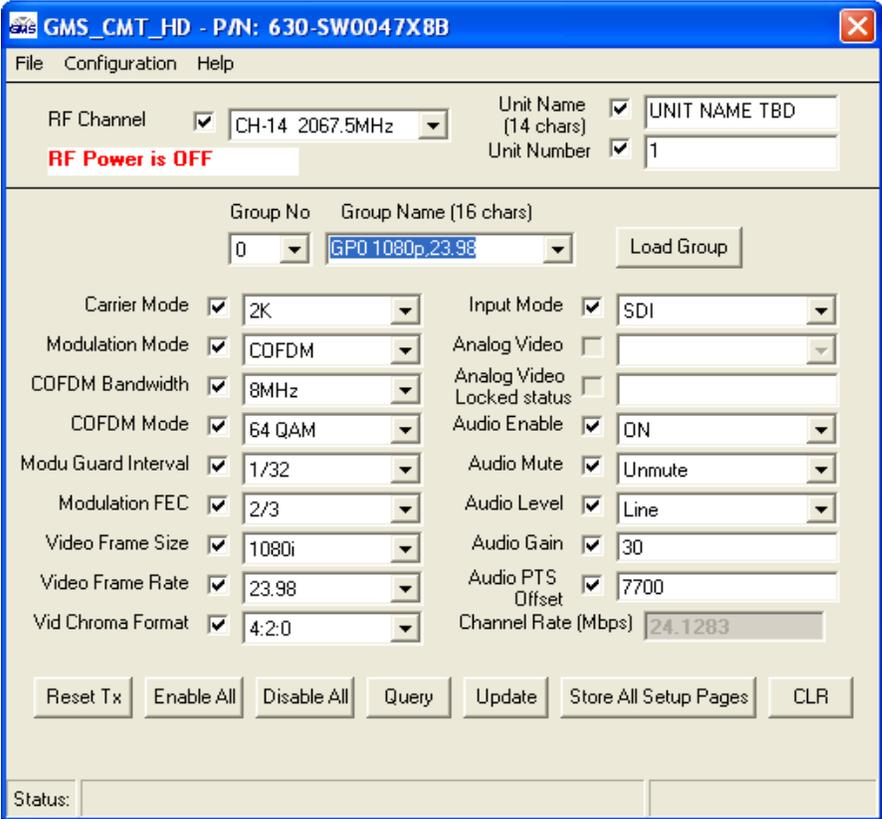

Figure 9a – RF Power OFF
- **RF Power Mode**-Can be used to put transmitter in a sleep mode, a low power mode where the encoder functions and many of the power regulators are shut down enabling a saving in current (approx. 40%) when transmitter is not active. The **OFF** state of the unit is displayed on the main window (see figure 9a). To have the unit in the desired **RF Power Mode** on Power up, it is necessary to store settings in the